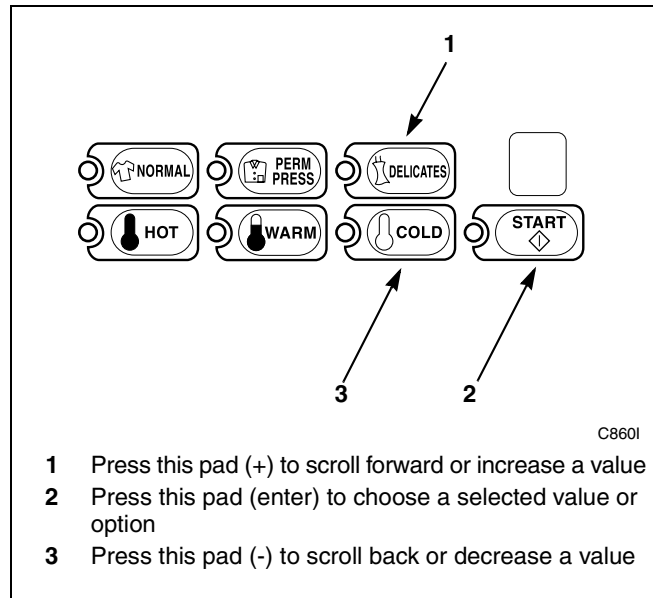

Figure 140
5. Press the DELICATES (+) or the COLD (-) keypad to increase or decrease the current number of minutes displayed in the VFD to the desired number of minutes. Refer to *Figure 140*.